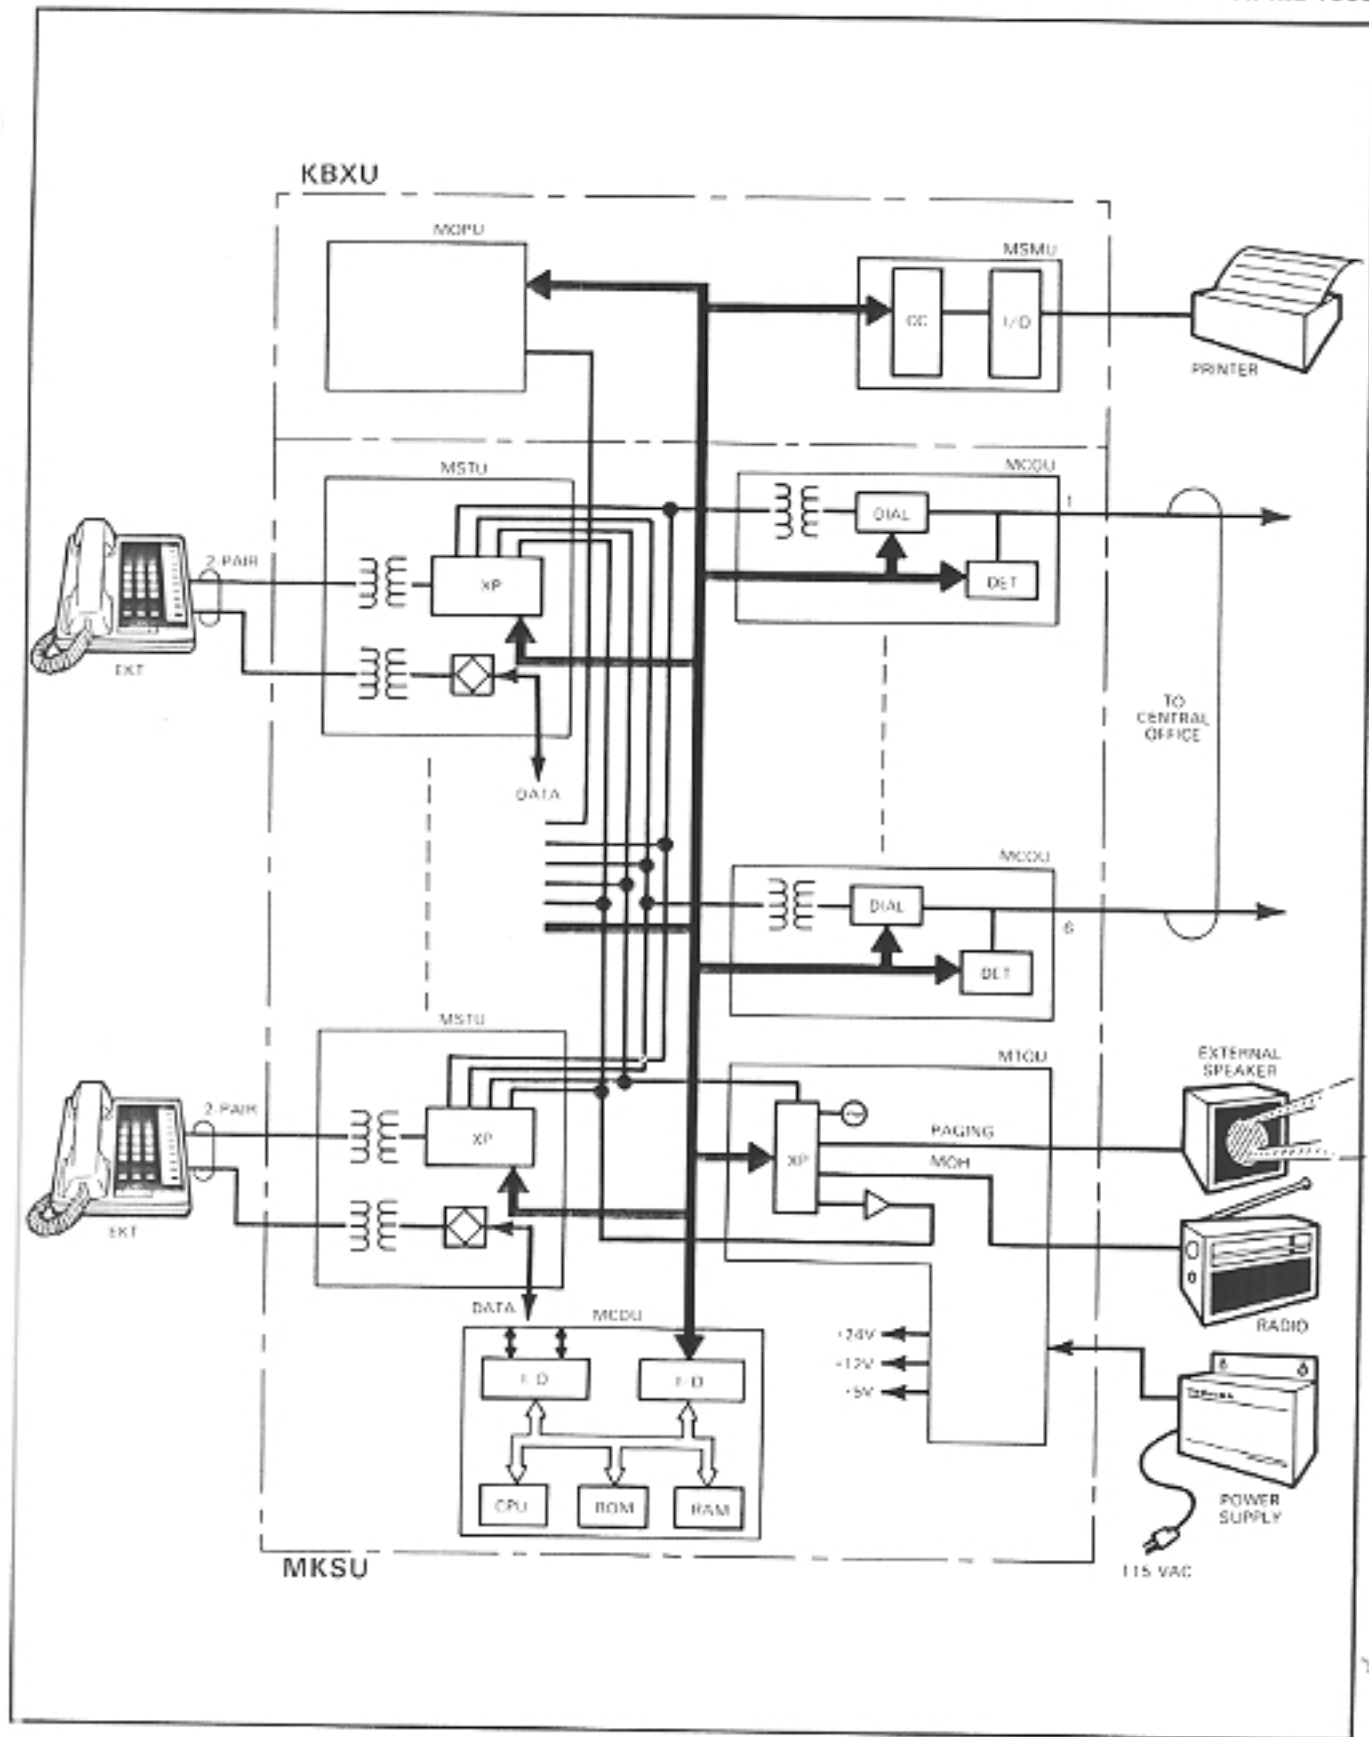

FIGURE 11—FUNCTIONAL BLOCK DIAGRAM
05.02 A functional block diagram of the MKSU is shown in Figure 11. It consists of station interfaces (MSTU), which include a solid-state space division matrix; CO line interfaces (MCOU/ MPLU); the central control equipment (consisting of the MTOU and MCDU); Off-Premise Extension (OPX) interface (MOPU); and the SMDR interface (MSMU).